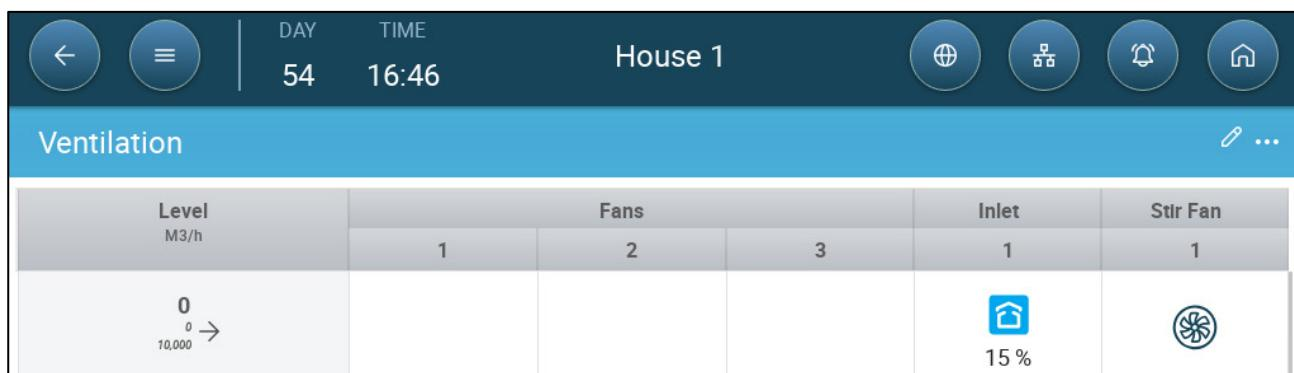
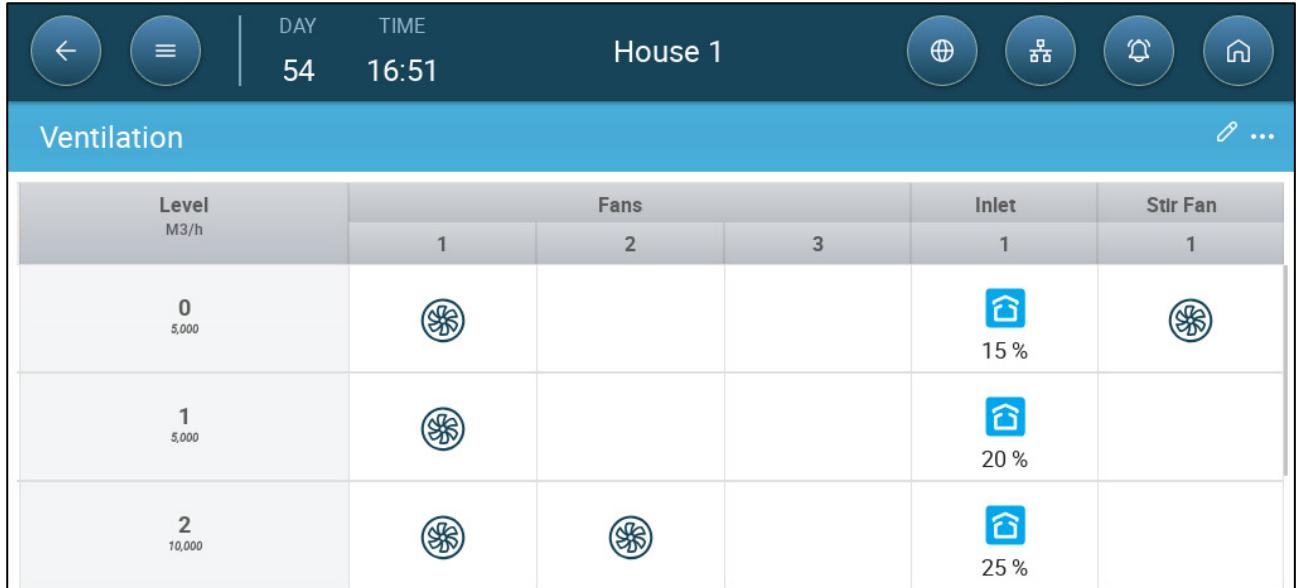

Figure 4: Invalid Stir Fan – Exhaust Fan Configuration
Figure 5: Change in Exhaust Fan – Stir Fan Stops Working
- As the level of ventilation rises, the stir fan operates until there is a change in the exhaust fan configuration. At that point, the stir fan must be redefined or it will stop operating. In Figure 4, The stir fan operates at Level 0 and Level 1. At Level 2, when the exhaust fan configuration changes, the stir fan stops operating. Figure 5 illustrates how to define the stir fan to ensure continuous operation.